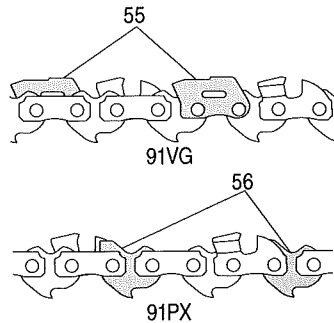

Fig. 45
Do not file or alter the tops of bumper tie strap (55) or bumper drive link (56). Otherwise, this could increase the tendency of the chain saw to kick back. (Fig. 45)